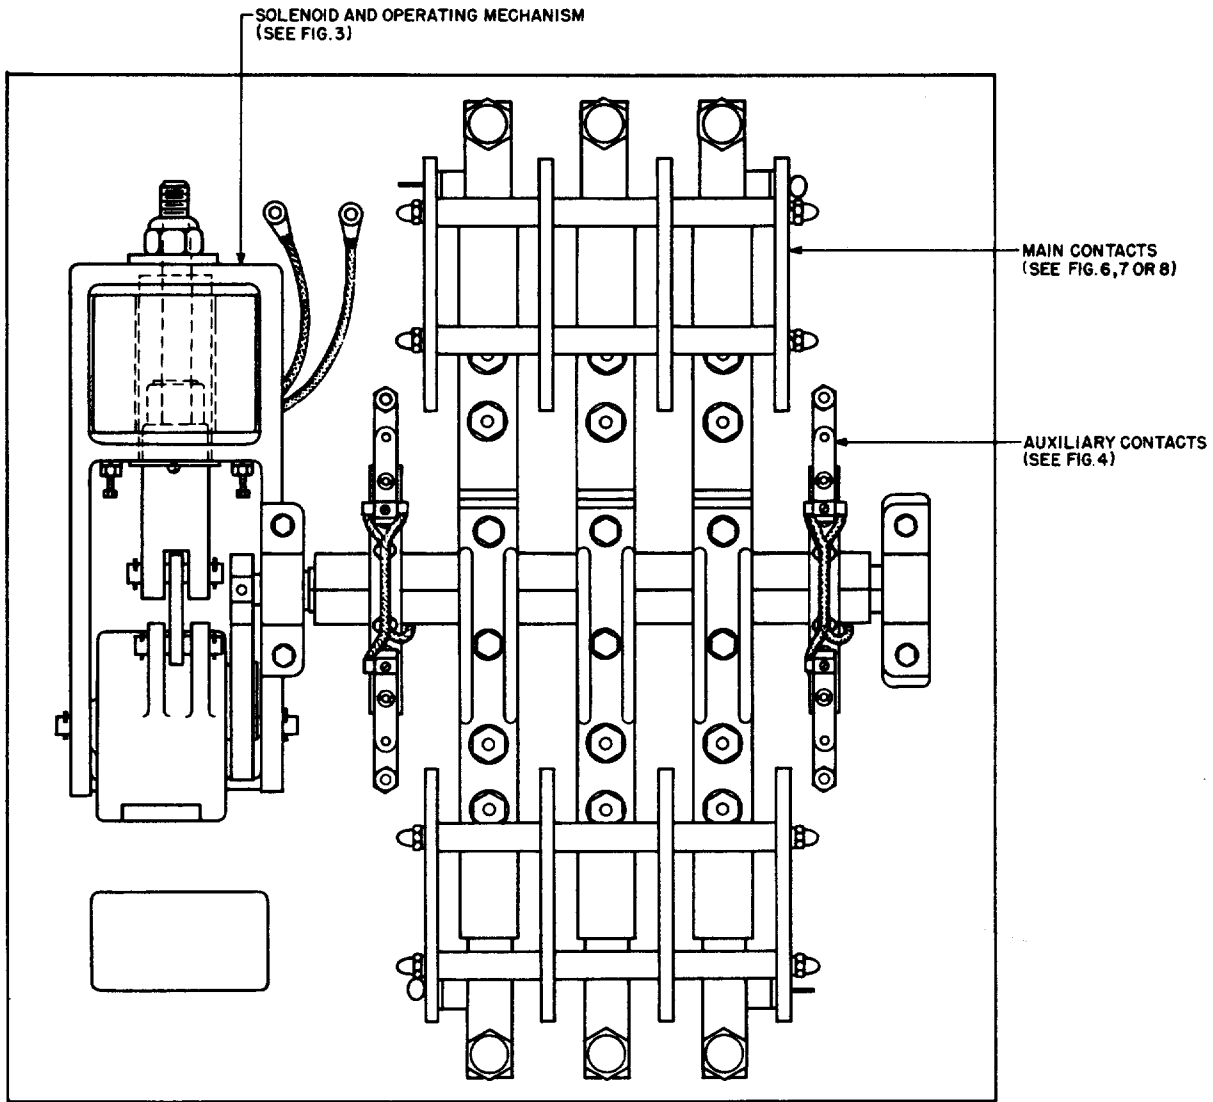

Fig. 1—Typical KS-15514, 30-, 75-, 100-, and 150-Ampere Contactors and KS-15934, 100- and 150-Ampere Contactors
**2.05** *KS-15514 Contactors:* Fig. 1 and 2